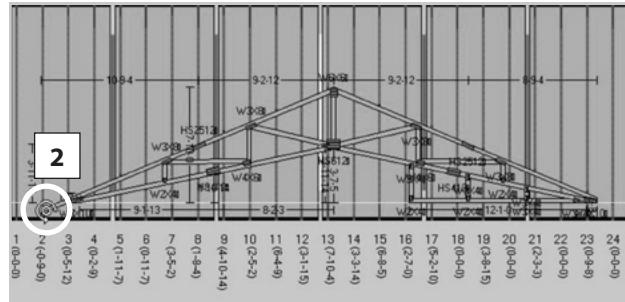

Figure 35
2. Click to select the center of rotation point (Figure 35)